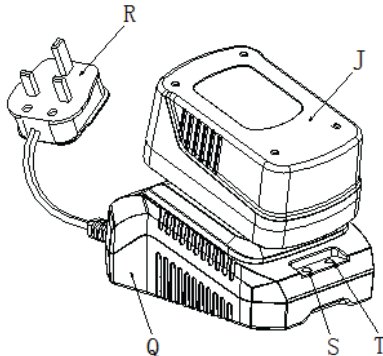

Fig 5
1. Insert the plug (R, Fig.5) into a 240V AC power outlet. The green LED power light (S, Fig.5) comes on, indicating the charger is ready for use.
2. Insert the battery pack into the receptacle in the charger (Q, Fig.5), making sure it is well sealed in the charger. The red LED light (T, Fig.5) will come on, and the green LED light (S, Fig.5) will shut
3. If the red LED light (T, Fig.5) doesn't come on, and the green LED light (S, Fig.5) is still on, the battery pack is too hot and can not be charged. Remove the battery and allow it to cool for 30 minutes and then re-insert it.